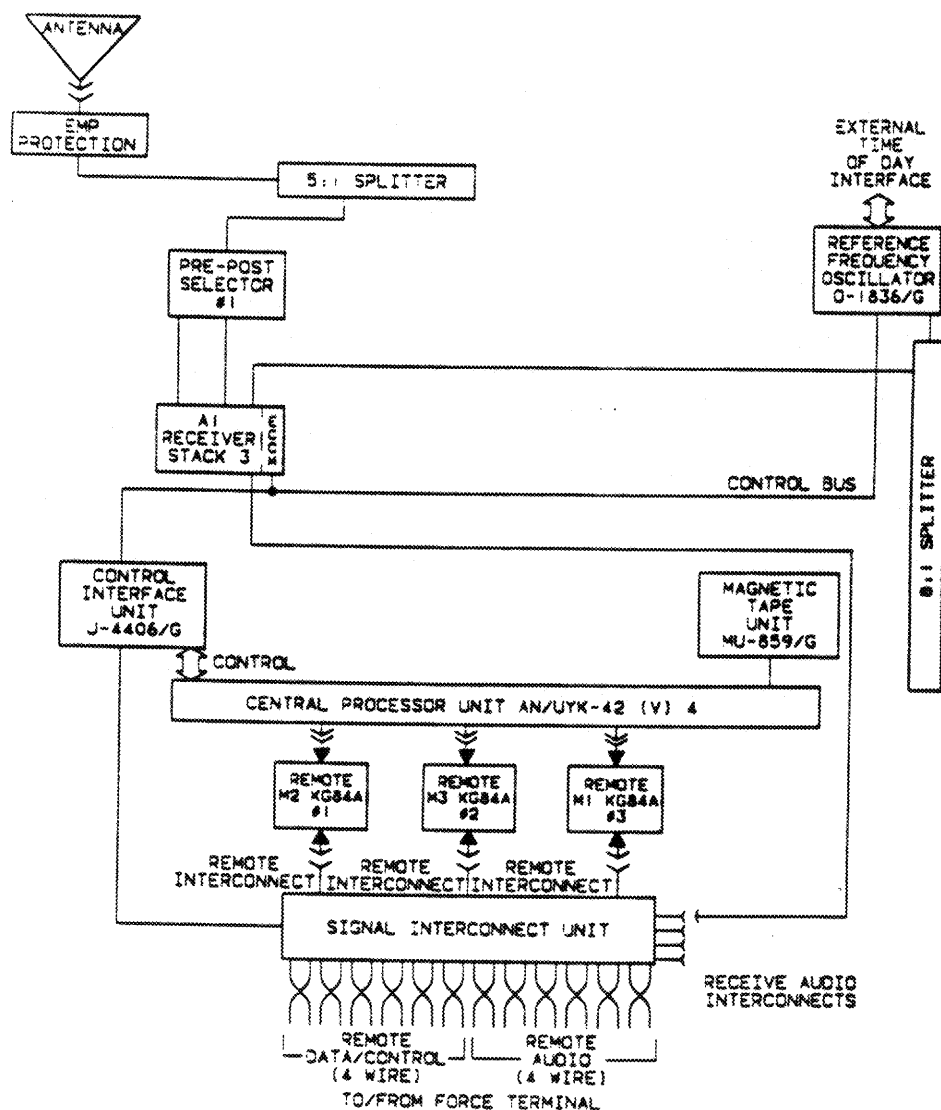

Figure 3-4. Split Site Voice Signal Flow
b. The HF signal is received by the antenna (see Figure 3-4). The antenna passes the signal to the 5:1 splitter, which takes one input and provides five outputs (one for each receiver). Each of the five outputs from the splitter is passed to a Pre/Post-Selector (P/PS). The P/PS provides filtering and passes the HF signal to the receiver. The receiver then passes the baseband audio signal to the RXS SIU. The RXS SIU passes the audio to the TXS over one of the remote audio interconnect circuits to the appropriate I/O Unit.